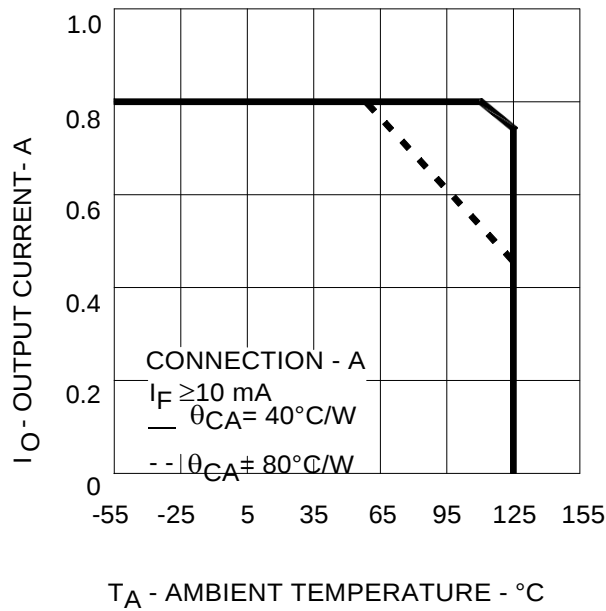
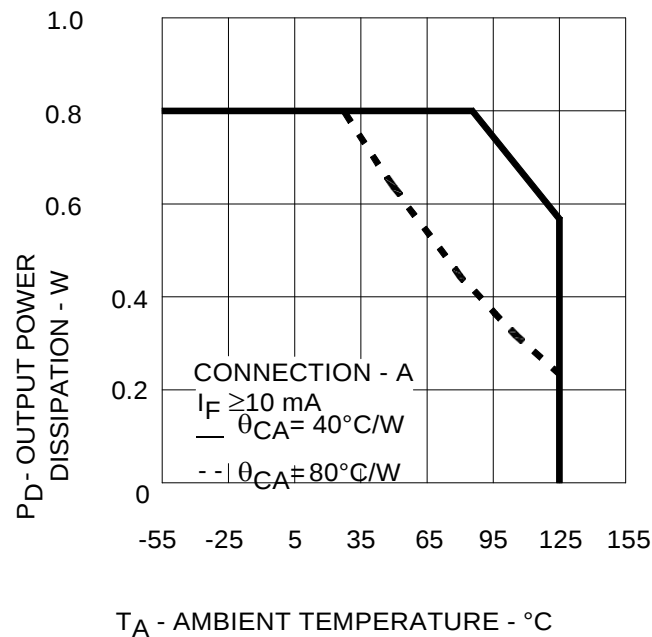

Figure 3. Maximum Average Output Current Rating vs. Ambient Temperature.
Figure 5. Output Power Rating vs. Ambient Temperature.
Average Output Power Dissipation - Figure 5	800 mW ⁽¹⁾
2. For rating, see Figure 5. The output power P_D rating curve is obtained when the part is handling the maximum average output current I_O as shown in Figure 3.